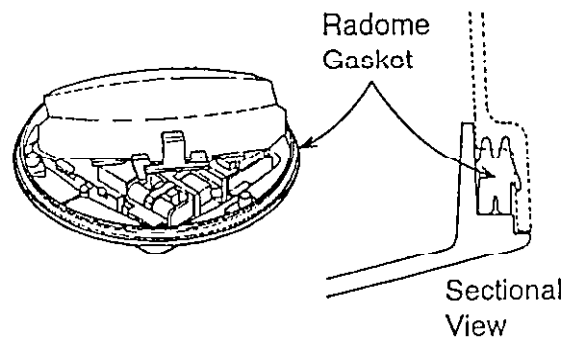

Figure 6-6 Proper position of radome gasket
- 6) Confirm the radome gasket is positioned as shown in Figure 6-6. Place the radome cover on the radome base assembly, facing the arrow on the scanner unit in the direction of the bow. Fasten the radome cover with the screws loosened at step 2.